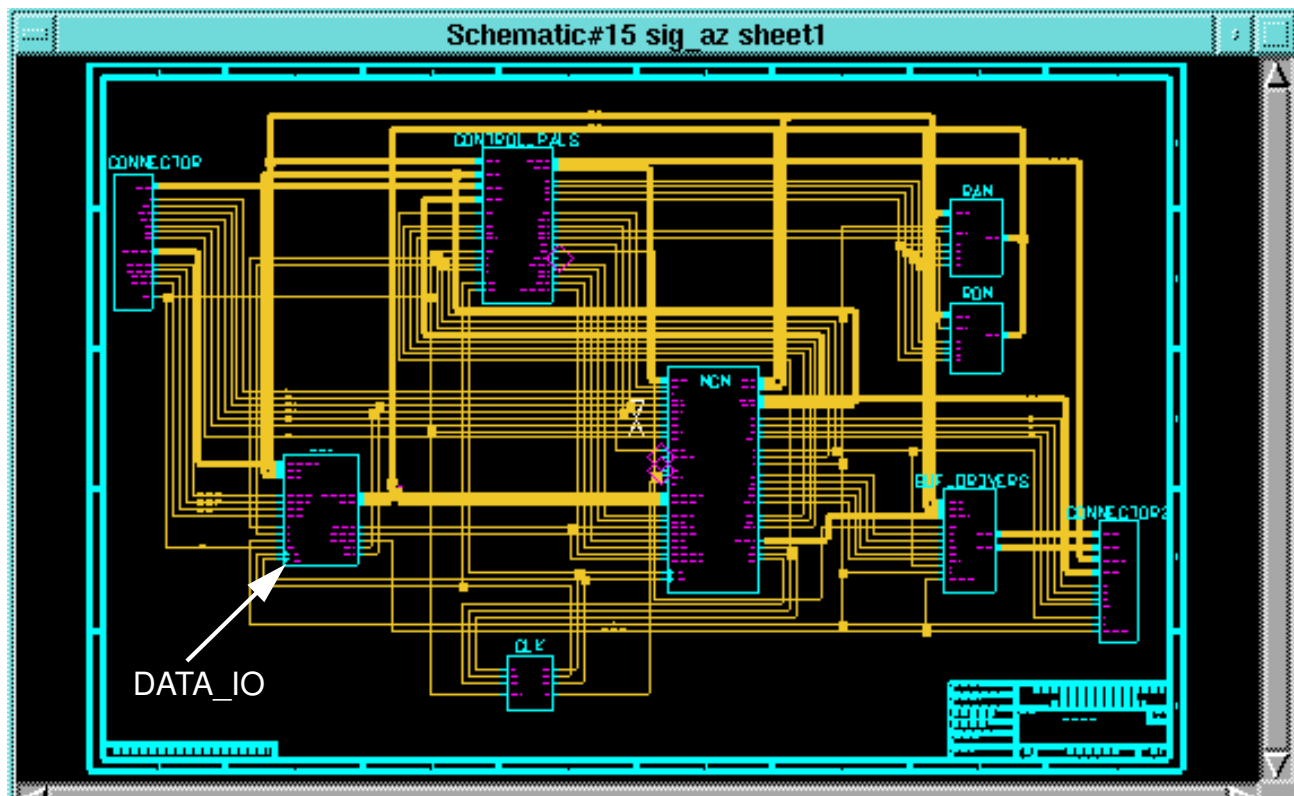

Figure 2-43. DATA_IO Component on Sheet1
5. Select the component labeled **DATA_IO** by clicking the Select mouse button on it (see the arrow in Figure 2-43).